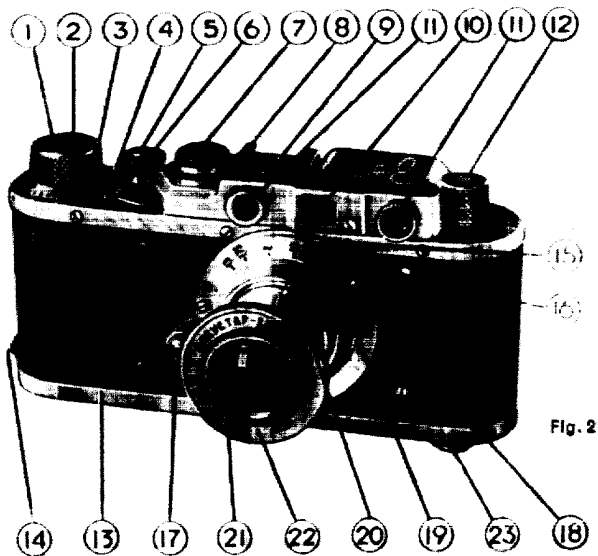
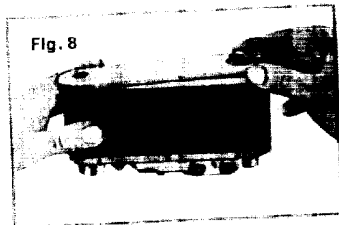

Fig. 2
Fig. 8
6. Set the open camera with the lens directed away from you. Holding the take-up spool (Fig. 12) in the left hand and the magazine in the right steadily lower them into their respective seats, with the film inserted into the slit. If the magazine does not reach the bottom of the seat the rewinding knob (Fig. 2) is to be slightly turned.
Fig. 2 shows general view and the outside parts of the "Zorki" camera:
1. Take the camera in a manner shown in Fig. 8, raise the handle of the lock (23 on Fig. 2) and give it half a turn counter-clockwise so as to have the arrow
2. Pull up the right end of the base plate (13 on Fig. 2) and take it off the locating pin (14 on Fig. 2).
7. Replace the base plate (Fig. 8) and tightly press it down; turn the handle of the lock clockwise for half a revolution so as to have the arrow on the lock point to "closed" (закрыто).
8. In order to pass the film which was exposed to light while loading, turn the winding knob and click the shutter twice by pressing the release button 5 (Fig. 2).
Each time the shutter winding knob is turned, the rewinding knob 12 (Fig. 2) turns in a reverse direction, thus indicating that the film is properly passing to the next exposure. If this is not the case the film leader should be wound back off the take-up spool and the film reloaded into the camera.
9. Set the picture counting dial 2 (Fig. 2) at "0" opposite the small counting arrow 4.
6. Shift the reversing lever 6 (Fig. 2) to the advance position and turn the shutter winding knob 1 (Fig. 2). The camera may now be loaded again.